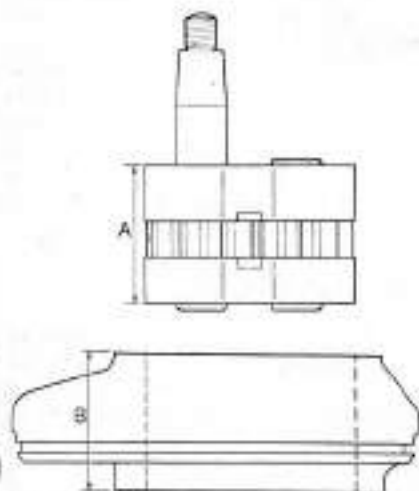

Fig. 27—Width (A) of rotors and bearings assembly must be not more than 0.008 narrower than width (B) of pump body.
43. Clean and inspect all parts. It is normal for the gears to cut a light track on inlet side of body, however if track exceeds 0.004 depth, body, rotors and bearings must be renewed. Inspect bearings for wear or scoring. Pay particular attention to the lubrication scrolls in shaft bores and the seal bridge area between shaft bores. If bearings are worn or scored, renew both bearings. Inspect journals of rotor shafts for scoring or wear. Light scoring of journals can be cleaned up using "O" grade emery paper lubricated with kerosene. Shaft journals must be within 0.005 of being equal while gear width must be within 0.002 of being equal. Measure overall width of the gears and bearings assembly and compare this with the width of pump body. See Fig. 27. Width of gear body must not be more than 0.008 wider than width of gears and bearings assembly.